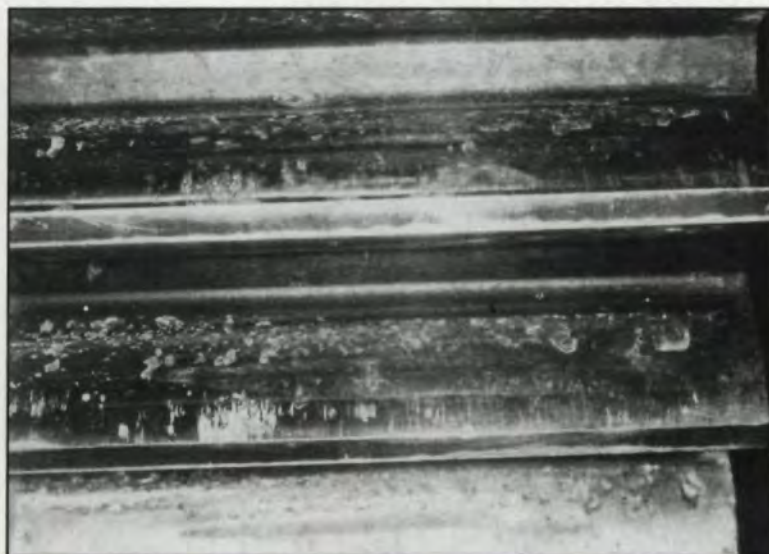

Fig. 1 - Scratches which can be seen on the uppermost part of the teeth profiles of a dryer wheel.
*Scratches, Grooves (Scratching).* This type of wear appears as isolated cavities and more or less deep streaks on the teeth flanks oriented in the direction of sliding motion. (See Fig. 1.) The intervals separating these scratches, their length, and their distribution on the teeth are very ir-